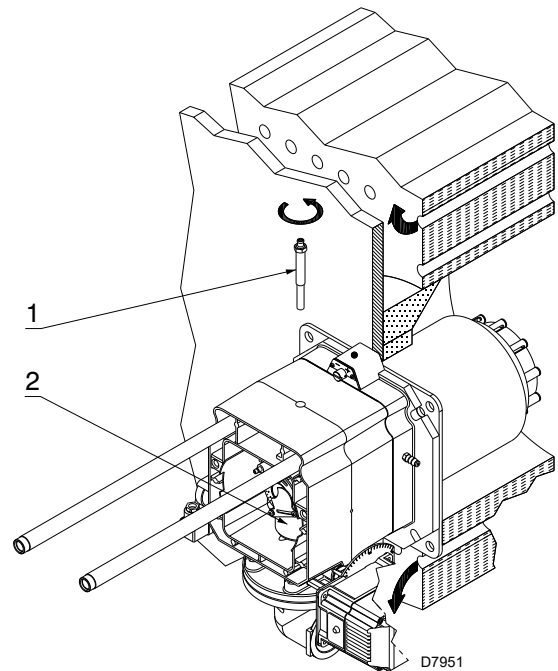

Fig. 15
- remove the screw 1)(Fig. 15)
- extract the inner part 2)(Fig. 15) of the head, and adjust them.
At this point of the installation, the combustion head is fixed to the boiler as shown in Fig. 15. It is therefore especially easy to adjust, and this adjustment depends only on the maximum output of the burner.